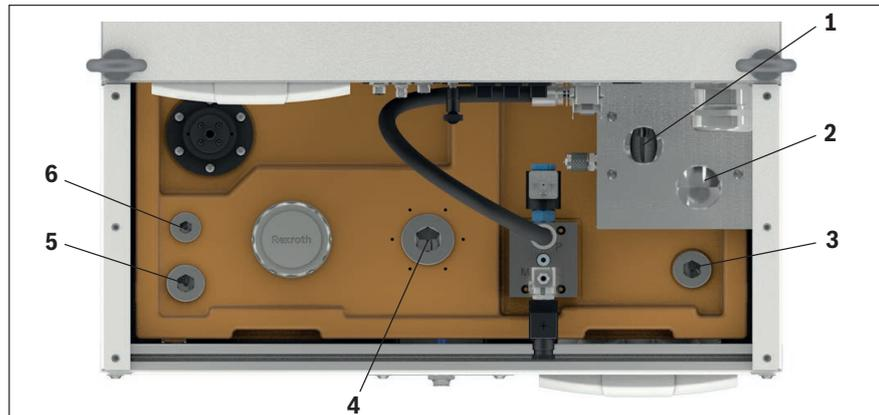

Fig. 14: Oil tank ports, pressure port
- ▶ If there is no subplate mounting, e.g. type IH20, connect the return line with a G1 1/2 fitting via the return flow port T, G1 1/2, see Fig. 14, pos. 2.
- ▶ Connect the pressure line with a G1 1/4 fitting via the pressure port G1 1/4, see Fig. 14, pos. 1.
- ▶ The back pressure-protected oil tank ports G3/4 (see Fig. 14, pos. 6), G1 (see Fig. 14, pos. 3 and 5) and G1 1/2 (see Fig. 14, pos. 4), can be optionally connected for rotary transmission leadthrough. Close unused ports with blanking plugs.